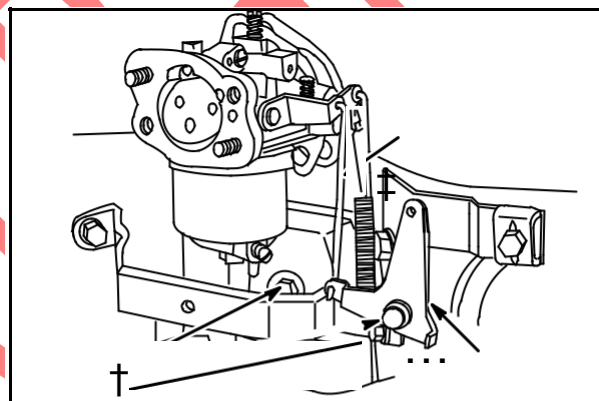
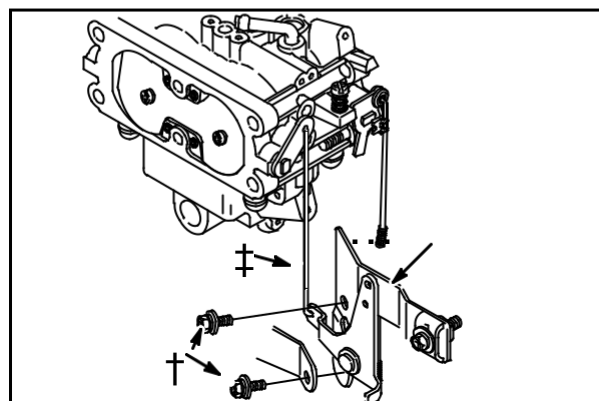

Fig. 27
Fig. 28
Connect choke link (7) to choke lever and install choke control bracket (5), single barrel carburetor, **Fig. 27**, two barrel carburetor, **Fig. 28**. Torque screws (6) to 65 in. lbs. (7 Nm).